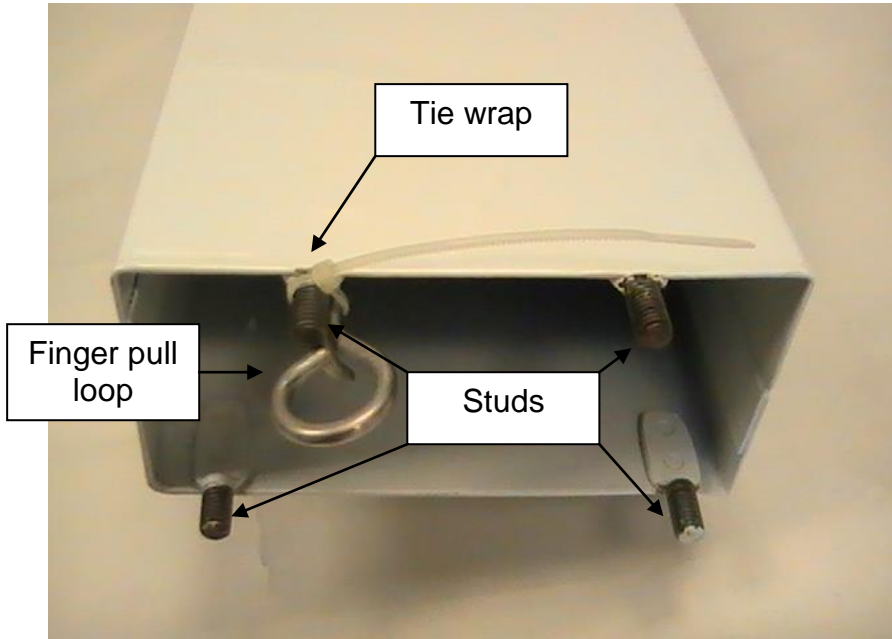

Figure 3
4. Cut the tie wrap that holds the steel rod to the pillar studs (see Figure 3 on page 8).